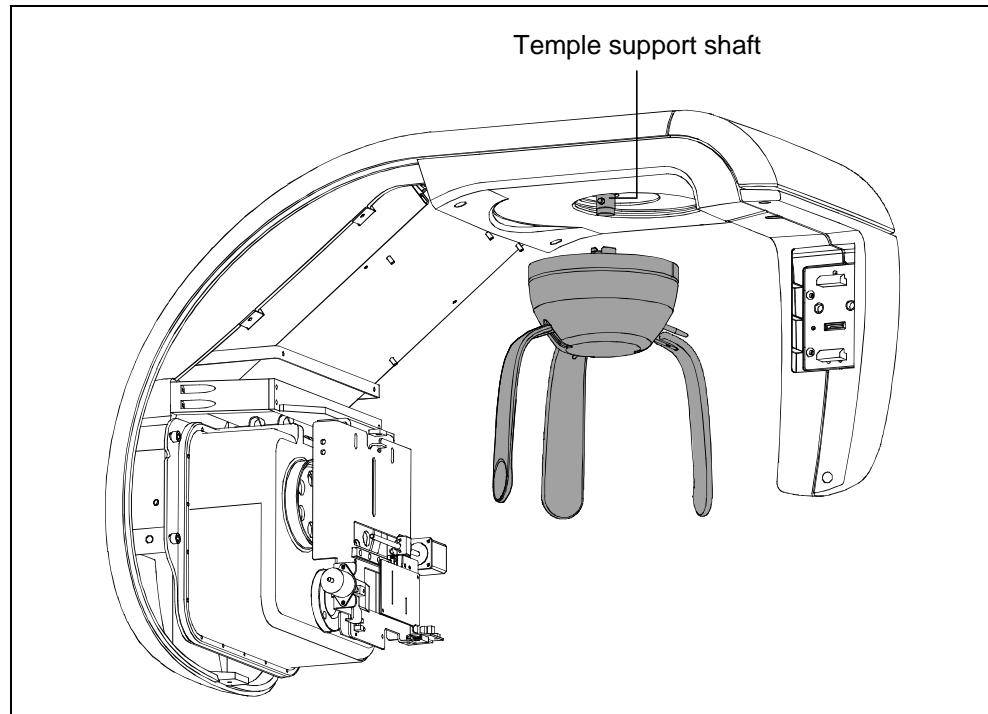

Figure 6-9
10. Mount the temple support group inserting and rotating it in the relevant shaft (Figure 6-9) until the group is locked.